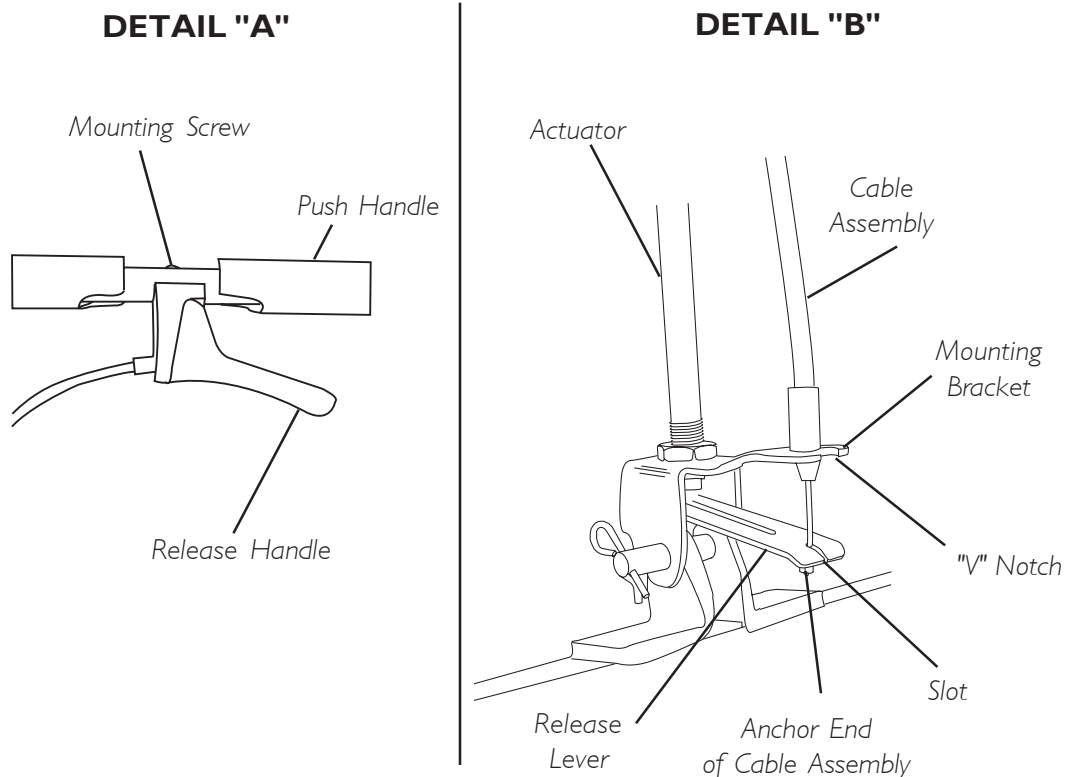

FIGURE 16 - REPLACING THE RELEASE HANDLE AND CABLE ASSEMBLY
1. With one hand, squeeze release lever up toward mounting bracket and remove anchor end of cable assembly from slot in release lever (DETAIL "B" in FIGURE 16).
2. Remove cable assembly from "V" notch of the mounting bracket (DETAIL "B" in FIGURE 16).
4. Remove the mounting screw which secures the release handle to the push handle (DETAIL "A" in FIGURE 16).
5. Secure NEW release handle to the push handle with the existing mounting screw. Securely tighten (DETAIL "A" in FIGURE 16).
6. Insert new cable assembly into "V" notch of the mounting bracket (DETAIL "B" in FIGURE 16).
7. Squeeze release lever up toward the mounting bracket and insert anchor end of NEW cable assembly into slot of release lever (DETAIL "B" in FIGURE 16).